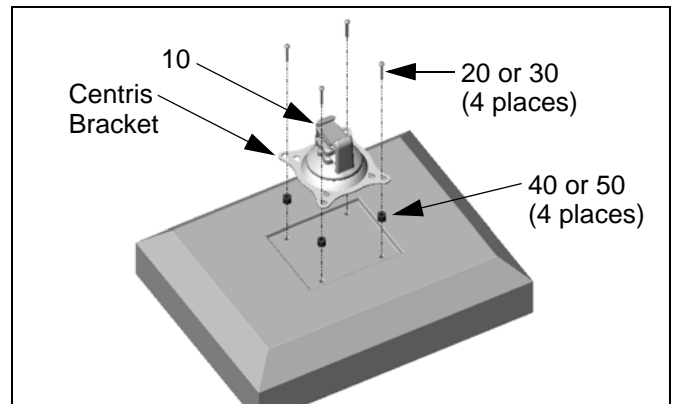

Figure 13: Dual / Triple Display - Recessed Mount
6. Place the Centris head (dual knob assembly) onto the spacers, aligning the mounting holes on the Centris bracket with the holes in the spacers (See Figure 13).
7. Using Phillips screwdriver, install four selected screws through the mounting holes in Centris bracket, through the spacers, into the display (See Figure 13). Tighten all four screws. Do not overtighten!